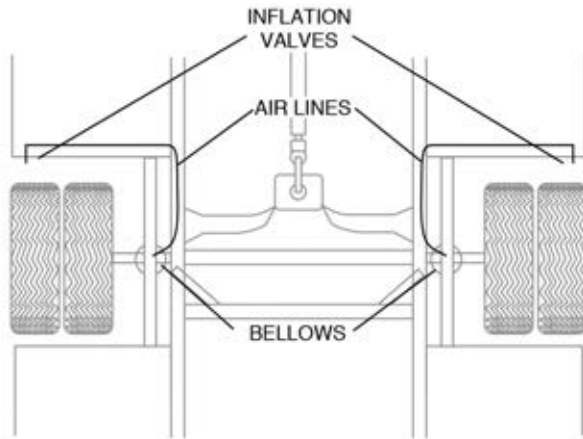

fig. 3
14. Select a location for the inflation valves in the rear bumper area or rocker panel flange insuring that each valve will be protected and accessible with an air hose (Figure 3).
16. Route air line from inflation valve location along frame rail to bellows. Route the air line so that it will be protected from the direct heat from the muffler or tailpipe and kept away from sharp edges. The air line should not be bent or curved sharply (Figure 3). Attach air line to chassis with the provided plastic straps.